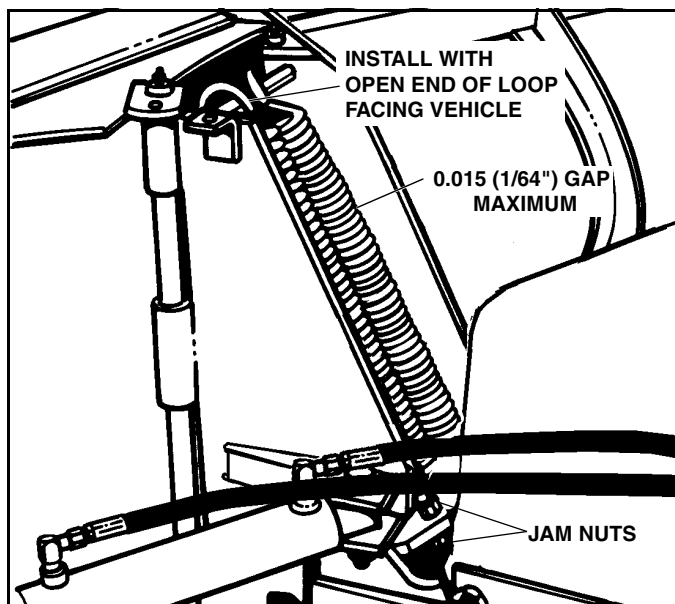

Figure 2-9
3. Check to make sure that the Spring is installed as illustrated with open end of top loop facing vehicle. (See Figure 2-9)
4. Using a 15/16" socket wrench through the holes in the bottom plate of the Main Frame, loosen the two (2) 5/8" Nuts on the Trip Spring Eyebolts. (See Figure 2-9)